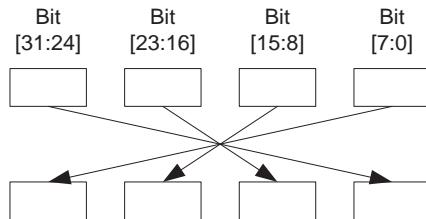

Figure 5.9
- REV (Byte Reverse in Word, Figure 5.9),